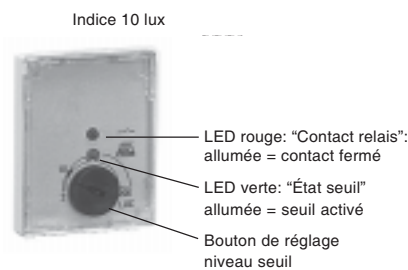

Fig. 2
**N.B. :** on the frontal the approximate corresponding position to the intervention threshold of 10 lux is indicated (fig. 2).